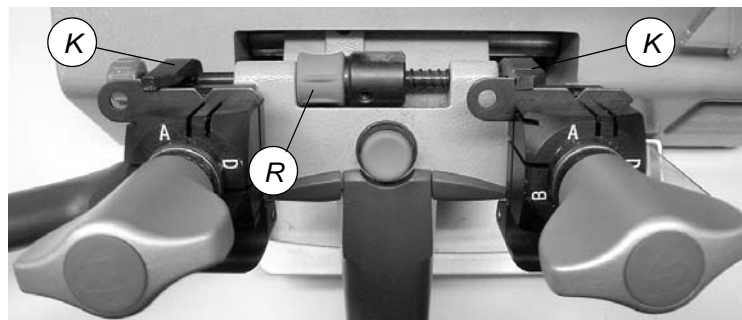

Fig. 13
- 1) Turn off the master switch (C) to operate safely and prevent activation of the cutting tool.
- 2) Place the adjusting key (provided) in the clamps (fig.13) with the notch facing the cutting tool and proceed as follows:
- a) ensure that the keys adhere to the clamps and that the callipers (K) are in full contact with the stops.
- b) to take the callipers into contact with the keys, rotate the drum (R) towards you (away from you to return to the ideal position)